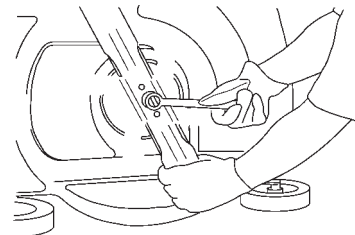

Figure 27
3. Secure the blade with the blade nut as shown in Figure 27.